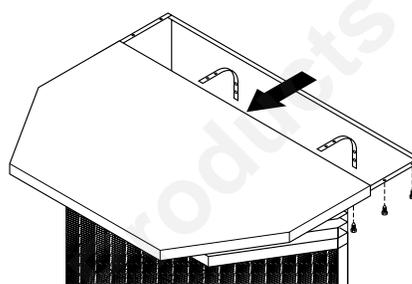

Figure 13 - Removing Stove Top Panel
1. Remove top panel of stove by removing three screws from under top lip on each side of stove (see Figure 13).
2. Facing front of stove, carefully slide top panel forward until it is completely removed from stove (see Figure 13).